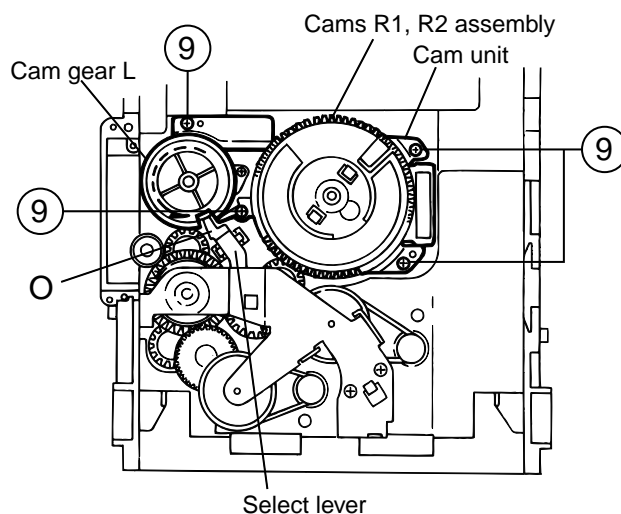

Fig.18
4. While turning the cam gear L, align the pawl "O" position of the select lever to the notch position (Fig.18) on the cam gear L.
5. Remove the four screws 9 retaining the cam unit (cam gear L and cams R1/R2 assembly) (See Fig.18).